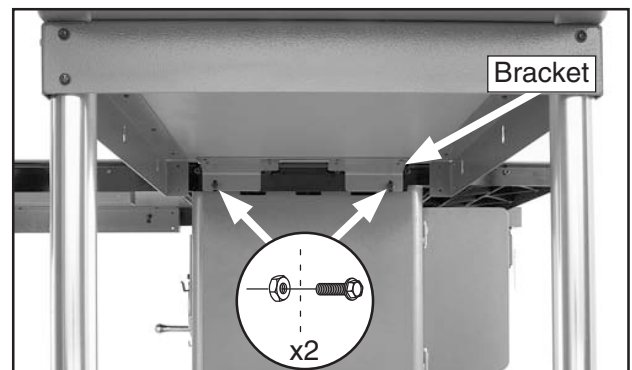

Figure 37. Outfeed table fastened to rear rail.
3. Place the extension table assembly upright with the feet on the ground, align the slots in the extension table bracket with the rear rail mounting holes, then fasten the table to the rail with (2) M8-1.25 x 16 flange bolts and M8-1.25 hex nuts, as shown in **Figure 37**.